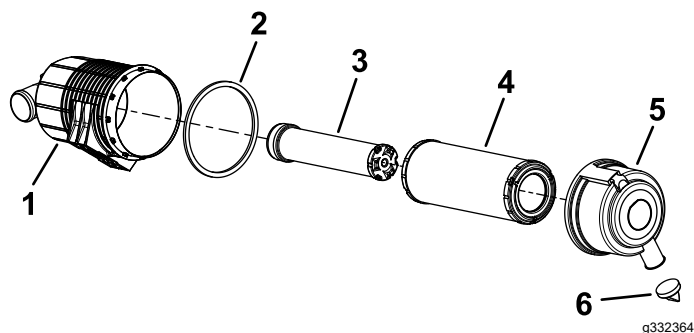

Figure 40
5. Service the air-cleaner filter and safety element when alerted (Figure 40).